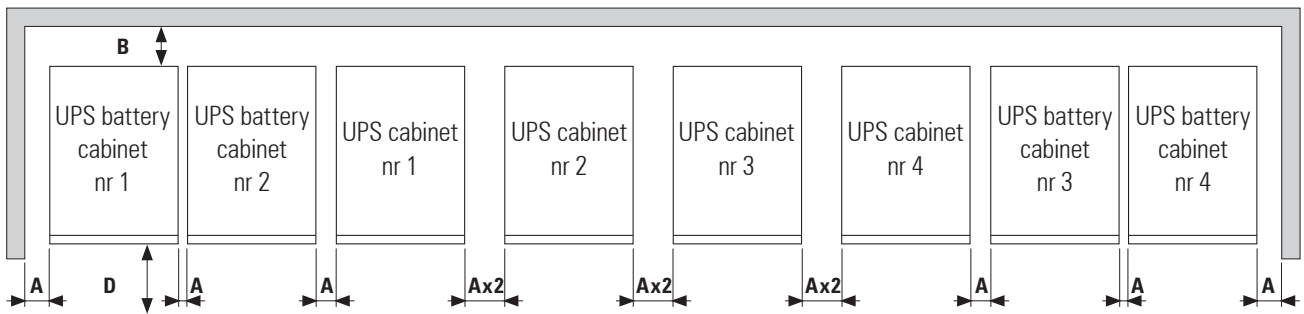

Fig. 31. Minimum peripheral dimension lines for system cooling.
- As i.e. Fig. 31 shows 4 equipments in parallel with their respective battery cabinet. For systems with less units act in each case accordingly.